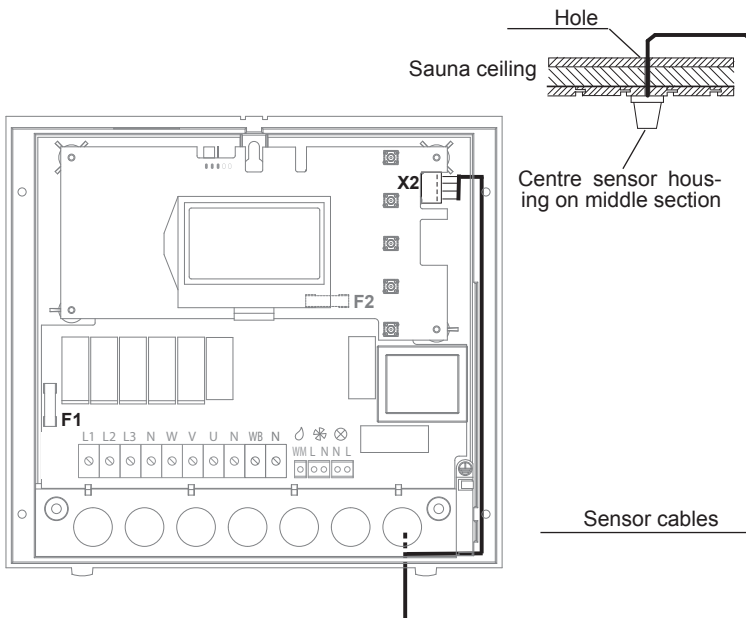
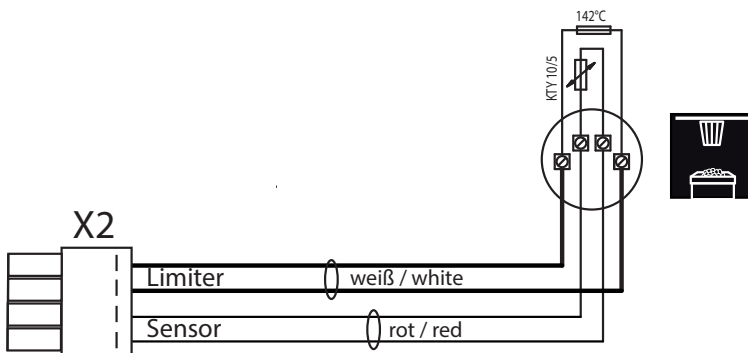

Fig. 11
Fig. 12
5. Lead the sensor cables through the right cable intake into the control unit. Install the sensor cables inside the control unit as shown in Fig. 11. Connect the sensor cables as shown in Fig. 12. In order to do this, pull the plug X2 from the circuit board and plug it back in after the connection.